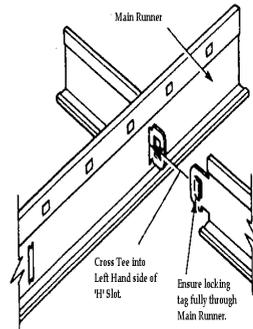

Fig.7
- Insert the end of the first full length 1200mm Cross Tee into the LEFT HAND side of the “H” slot in the Main Tee, in line with the chalk line set up at Step 4. Ensure the locking tag is fully through the Main Tee. (See fig. 7)